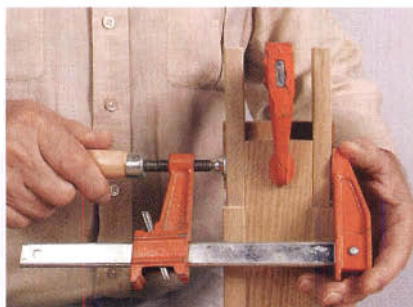

Figure 9. Position, glue and clamp rail extension strips with the aid of an alignment block.
Step 11: Attach the rail extension strips. (See *Figure 9*.) Clamp the same alignment block as you used in Step 10 to the end of the stretcher rail. Glue the extension strips, align and clamp them.